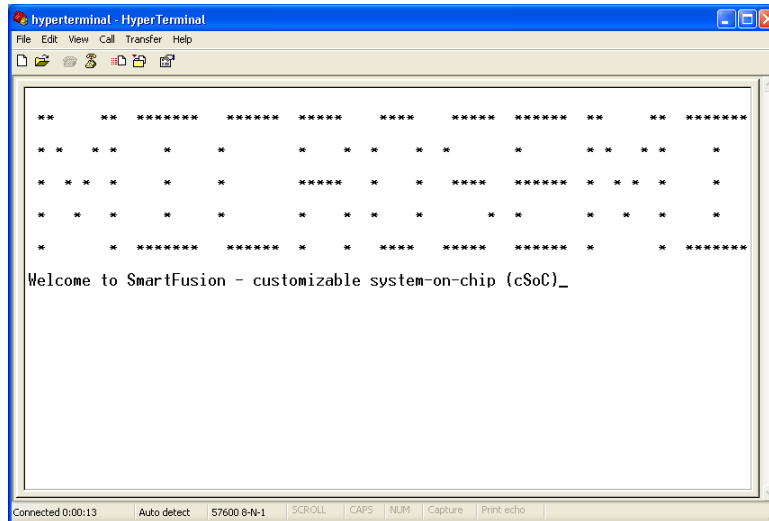

Figure 40 · UART HyperTerminal Window
5. Observe the HyperTerminal window. It should display the greeting message with the Microsemi name, as shown in Figure 40 .